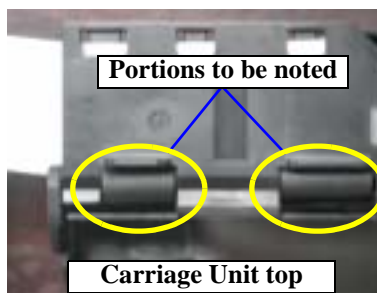

Figure 4-63. Routing the Head FFC Guides
- Refer to Figure 4-63 for the way to route the Head FFC Guides.
- When reinstalling the Head FFC Guides, fully be careful not to bend or damage the FFCs. (Especially the two places in the right photo in Figure 4-63.)
- Refer to the right photo in Figure 4-63, "Routing the Head FFC Guides".